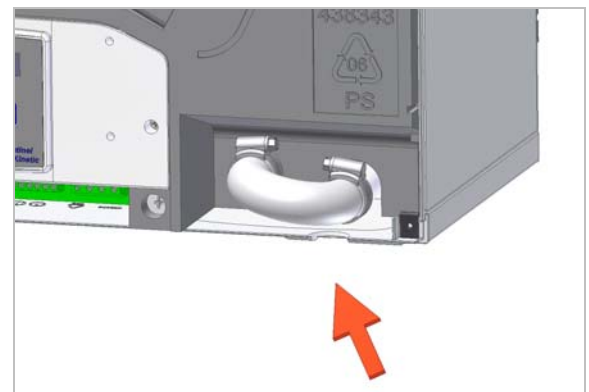

Figure 16: Fit U-pipe (Front of Unit)
3. Fit the horizontal condensate U-pipe and secure with a worm-drive clip (see Figure 16).